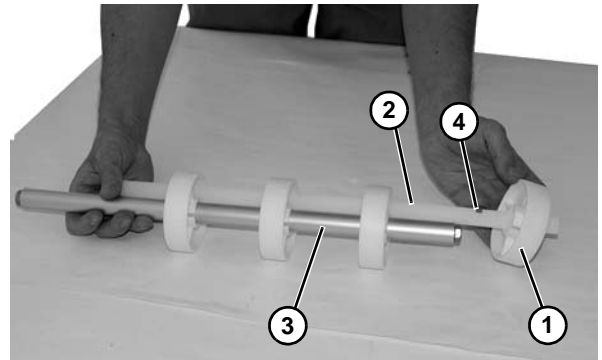

Figure 61
4. Remove rollers (**Figure 61, item 1**) and alignment bar (**Figure 61, item 2**) from shaft (**Figure 61, item 3**). Inspect and replace if worn.
5. Reinstall rollers and alignment bar, with each roller lining up with cutout area (**Figure 61, item 4**) on alignment bar.